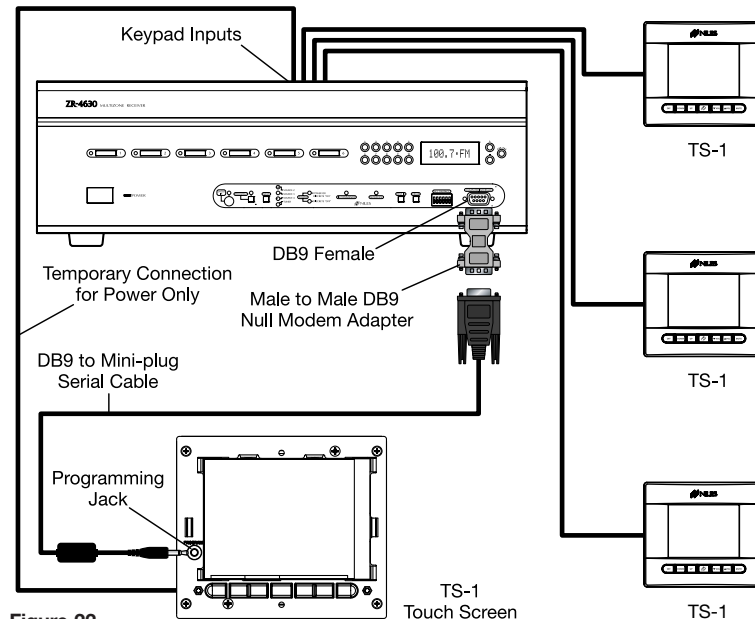

Figure 22
1. Using a DB9 to mini-plug serial cable and a male-to-male DB9 null-modem adapter, connect the **PROGRAM** jack on the newly-configured TS-1 to the ZR receiver's **COMPUTER INTERFACE** port, as shown in Figure 22 on the next page.